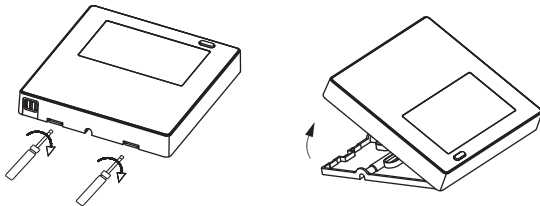

Fig. 1 — Opening Back Mounting Plate
5. Insert a flat-head screwdriver into the slots provided on the bottom of the controller to pop open the back mounting plate. See Fig. 1.